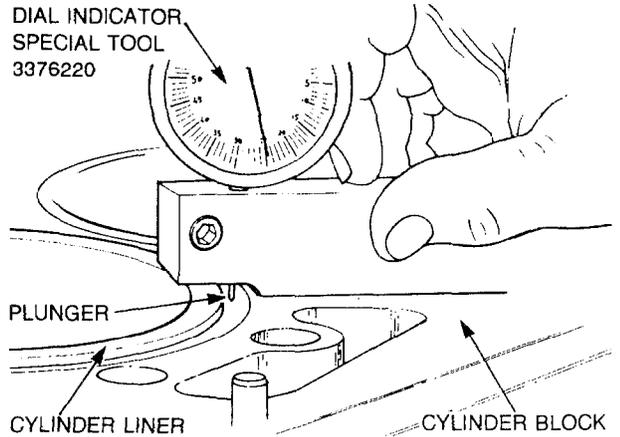

Figure 40 — Measuring Cylinder Liner Protrusion
- g. Measure and note the cylinder liner protrusion, using special tool 3376220, at four points around the cylinder liner bead 90° apart (see Fig. 40). Cylinder liner protrusion should be 0.08-0.15 mm (0.003-0.006 in.).